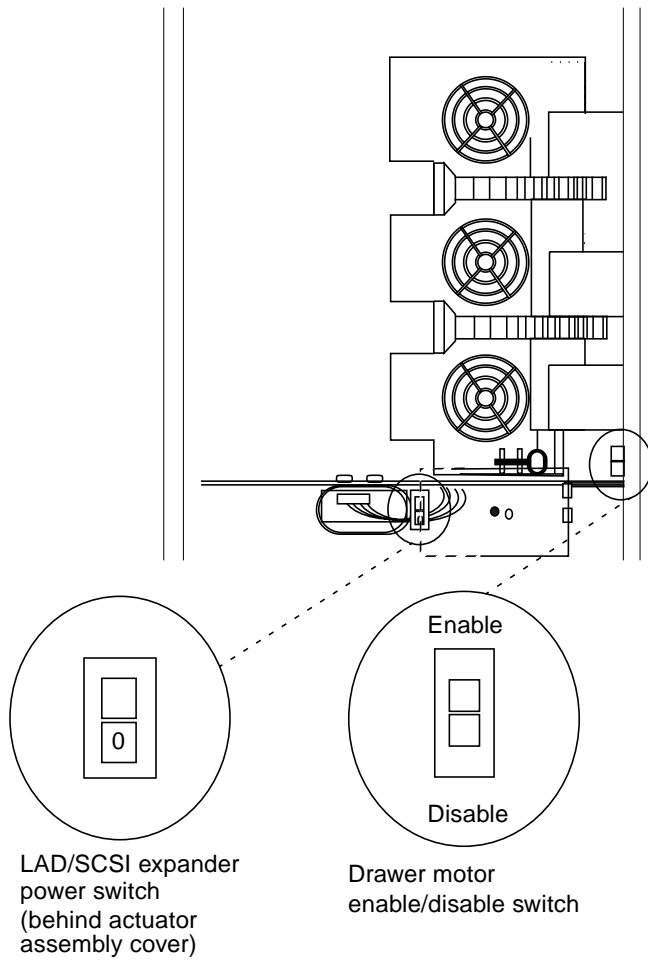

FIGURE 7-7 LAD/SCSI Expander Power Switch Location
10. **Power on the LAD/SCSI Expander. See FIGURE 7-7 for switch location.**